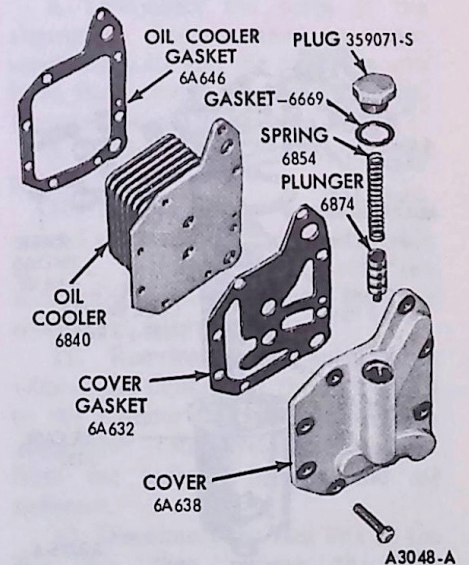

FIG. 28 Oil Cooler Assembly
3. Remove the relief valve plug and gasket; then remove the spring and plunger. The oil cooler assembly is shown in Fig. 28.